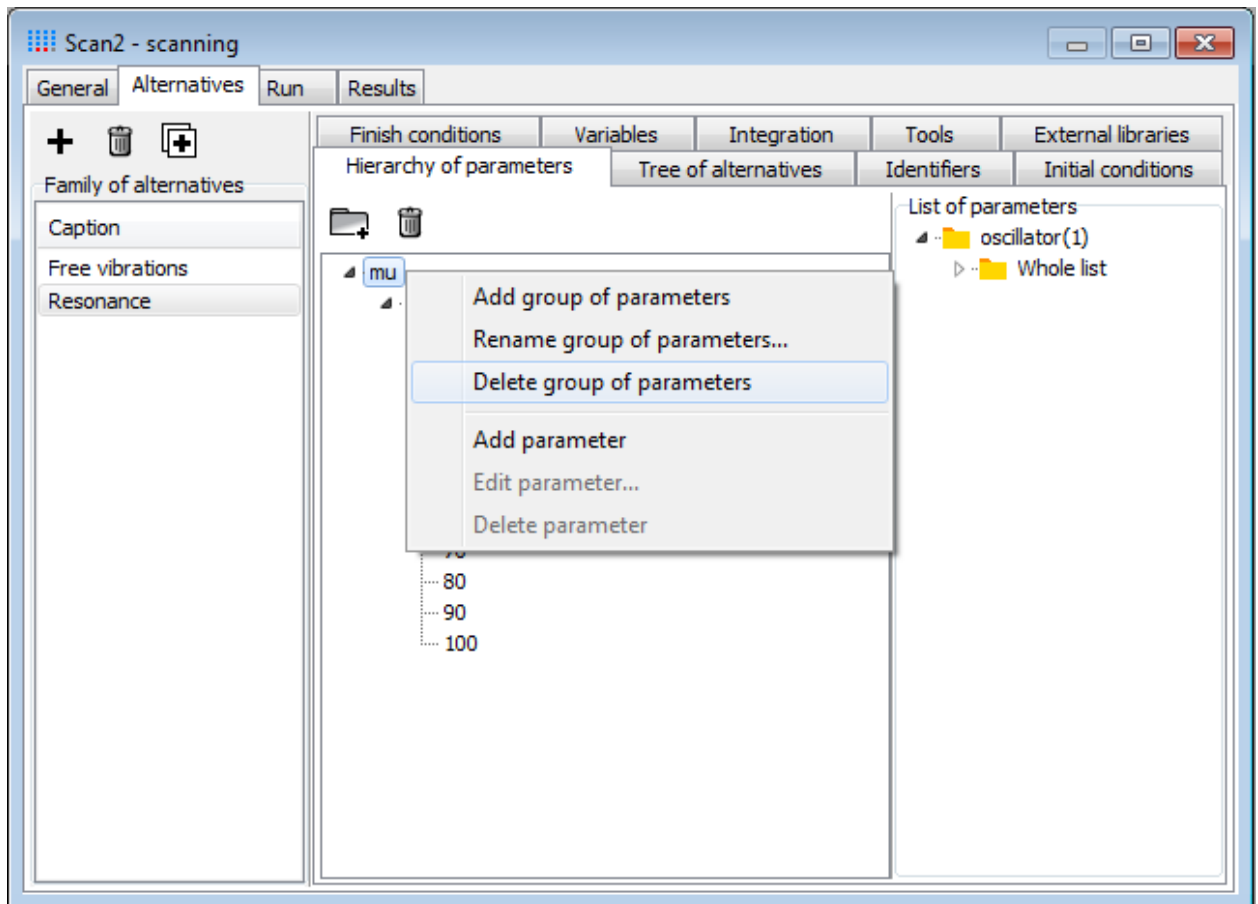

Figure 2.10. Deleting the group of parameters
4. Select the **mu** group of parameters and from the context menu select **Delete group of parameters**, see Figure 2.10.